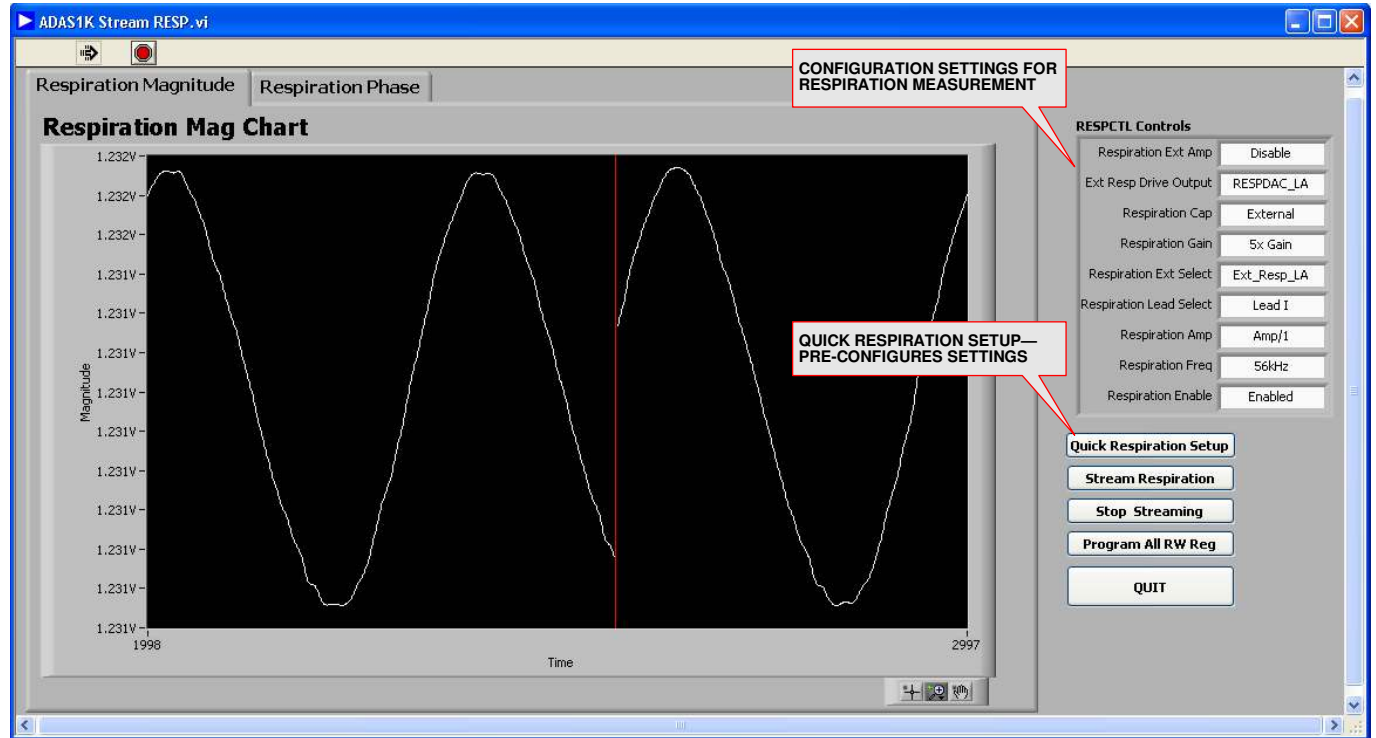

Figure 20. Respiration Magnitude Chart
1. Use **Quick Respiration Setup** to quickly configure the device. Figure 20 shows the respiration signal capturing a respiration signal provided by the Fluke PS420.
2. Configure the settings in the respiration register for many different options. See Figure 20 and see the Flexible Respiration Feature on Master section for a description.